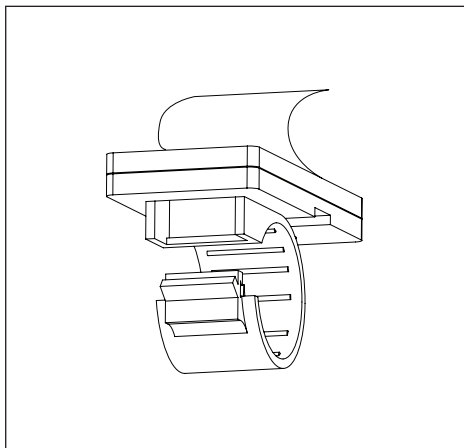

Figure 1.7
7. Use cord clips to secure the fan's power cord to ceiling in a path toward the power outlet. Peel the backing off of the double-sided tape preassembled to back side of each cord clip (Figure 1.7).